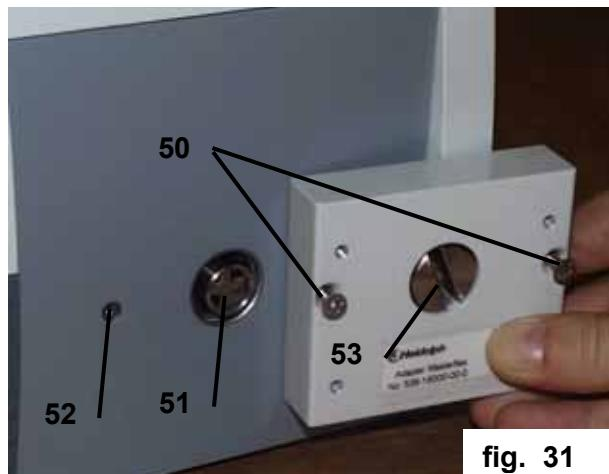

fig. 31
- To install pump head on pump drive, align follower pin (54) with slot in multi-channel adapter (53, fig. 31).
- We recommend to support the pump head for this action; use adjustable foot (56) for leveling. Pull lock-nut (57) tight against the pump head's underside.
- CAUTION: the multi-channel pump head's drive C 8 follower pin features a plastic sleeve (58) over the follower pin (54). Check for proper seat of parts. The plastic sleeve (58) is used for cushion between both parts of the coupling, limiting noise emission to a minimum. This sleeve (58) needs to be inspected after every 500 hours of operation and replaced on condition. Sleeve P/N: 23-09-01-01-88-0